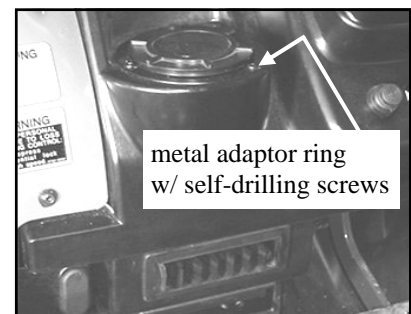

Figure 3
- 2.2 (See figures 3 and 4). Insert the flexible duct provided, through the hole in the dash where the cup holder was removed. Working from under the hood, connect the flexible duct to the duct adaptor on the heater with the large hose clamp provided. Trim the flexible duct so that no more than 2" protrudes from the cup holder hole in the dash. Next, install the round louvered vent provided to the metal adaptor ring by snapping it into place. Install the round louver to the other end of the flexible duct with the remaining large clamp. Install the louver to the dashboard with three self-drilling screws provided.